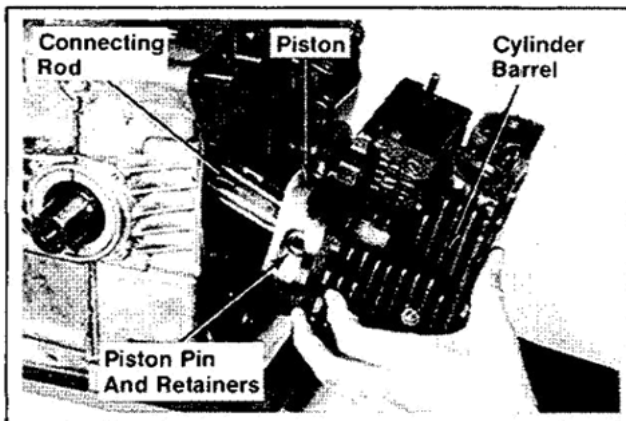

Figure 11-32. Installing Pistons/Cylinder Barrels To Connecting Rods.
3. Install one (1) new piston pin retainer in one side of each piston pin bore.
4. Install the pistons (inside cylinder barrels), piston pins, and new piston pin retainers to connecting rods. Refer to Figure 11-32.